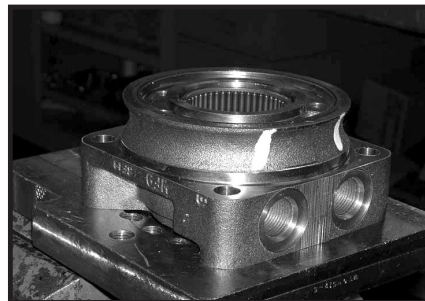

Figure 31
4. Invert housing (18) assembly into a soft jawed vise with the coupling shaft bore down, clamping against the mounting flange. SEE FIGURE 31.